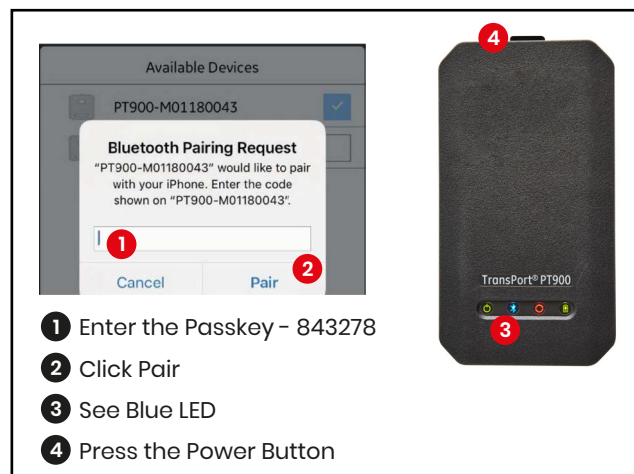

Figure 67: Confirm the Pairing
10. During the pairing process, PT900 security features require the user to confirm the pairing (see Figure 67 below). When the Bluetooth pairing request appears on the tablet, enter the passkey and click Pair. Then, confirm that the blue LED on the transmitter is flashing and click the transmitter power button within 10s. Passkey for this device is 843278.